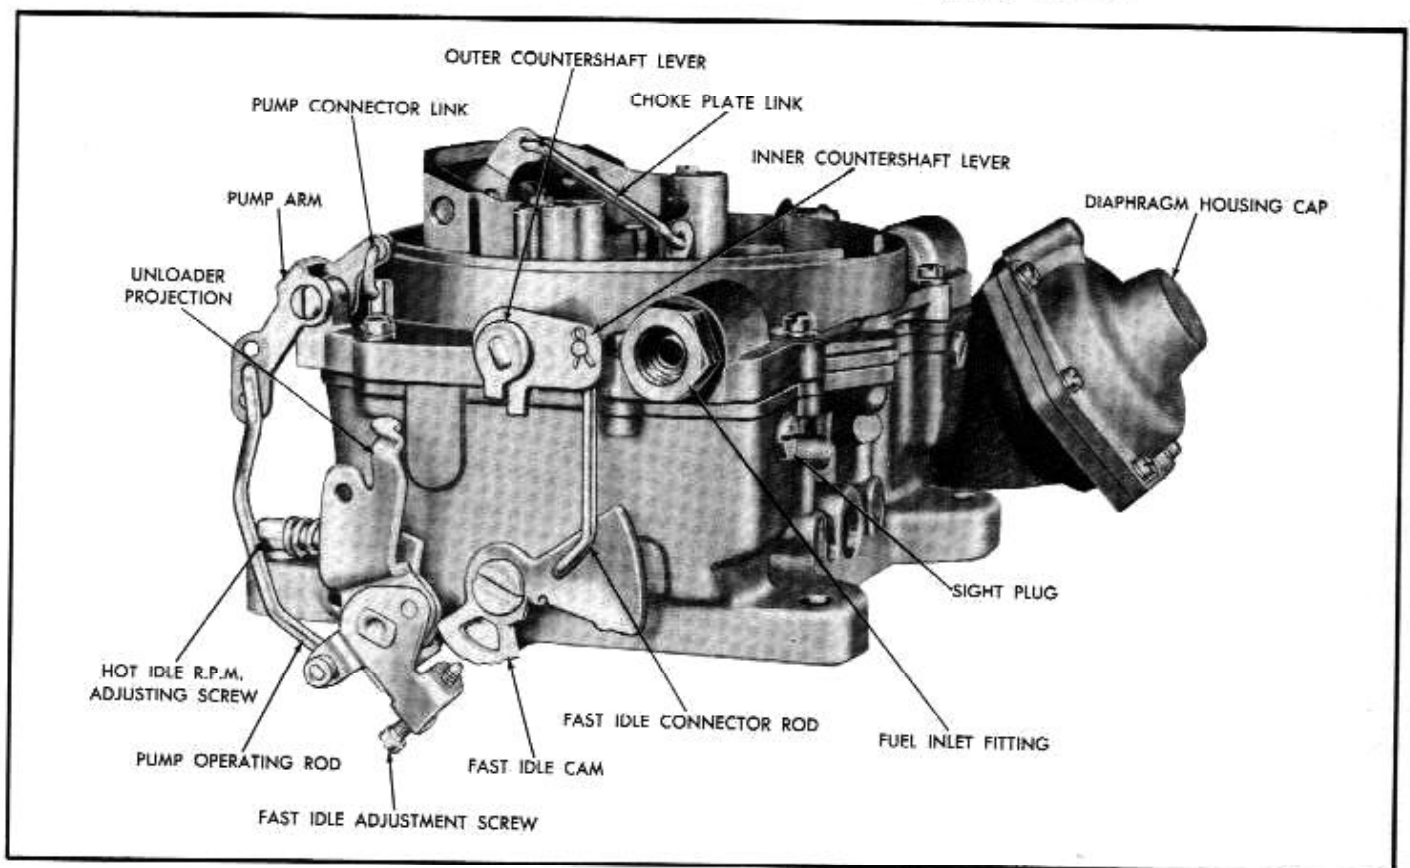

Fig. 9E-26—AFB Carburetor — Left Side
16. Install countershaft lever assembly on choke connector rod. Install lever assembly with attached rod on choke countershaft. Hold choke plate closed; rotate lever assembly on countershaft so that long arm of lever faces diaphragm housing. NOTE: Position inner and outer lever (opposite end of countershaft) as shown in figure 9E-26. Remove end play. Tighten clamp screw until slight tension is obtained on countershaft.